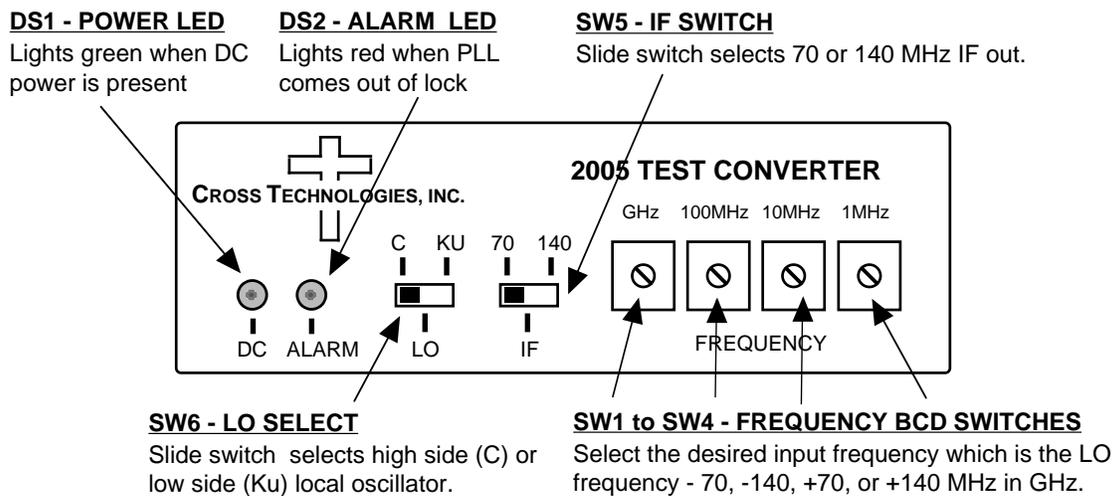

FIGURE 2.1 2005-22P Front Panel Controls and Indicators
2.2 Front Panel Controls/Indicators - Figure 2.1 shows front panel controls and indicators for the 2005-22P.
2. Select either C or KU band (SW6) and either 70 or 140 MHz IF (SW5) using the front panel switches (Figure 2.1).
6. Set BCD switches, SW1 to SW4, to the desired frequency (Figure 2.1).
7. Be sure DS1 (green, DC Power) is on and DS2 (red, Alarm) is off (Figure 2.1).
2.5.3 Selecting High Side LO (-C), Low Side LO (-Ku), 70MHz or 140 MHz Input - To select High Side LO, Low Side LO, 70MHz or 140 MHz Input set SW5 and SW6 on the front panel (see Figure 2.1) to the desired position.